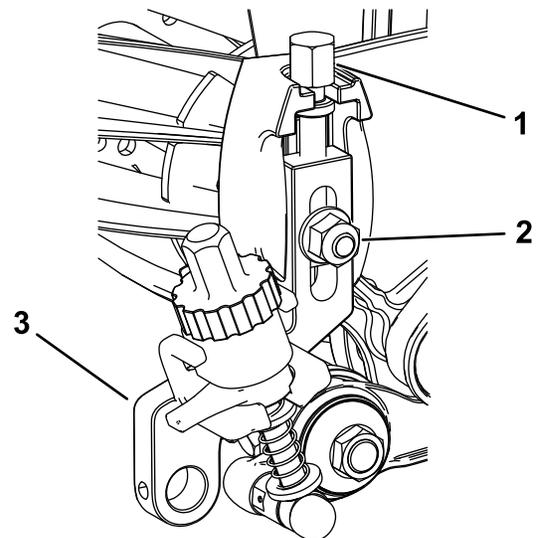

Figure 21
- Thread the previously removed height-of-cut adjusting screws into the top of the height-of-cut assemblies (Figure 21).
- Install the height-of-cut assemblies to the cutting unit side plates using the previously removed plow bolt, nut, and special washer (Figure 21).